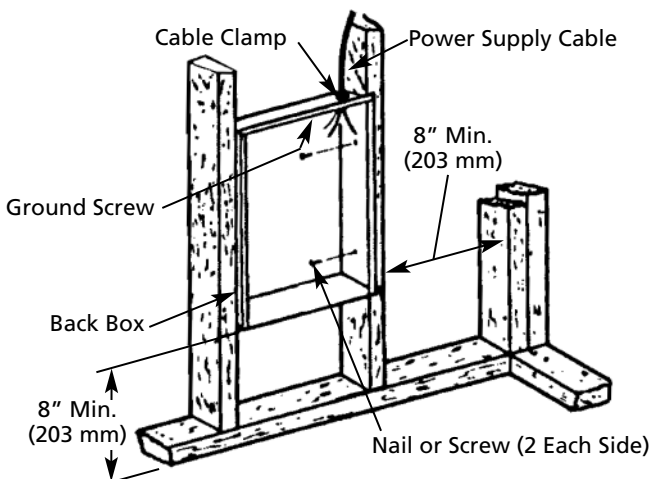

Figure 2 – Locating Recessed Back Box in New Construction
1. Mounting Back Box (See Figure 2).
- c. Secure the back box in position with wood screws or nails as shown in Figure 2.
2. Power Supply Wiring (See Figure 2).
2. Power Supply Wiring (See Figure 2)
- b. Secure the back box in place with wood screws or nails. (Figure 2)